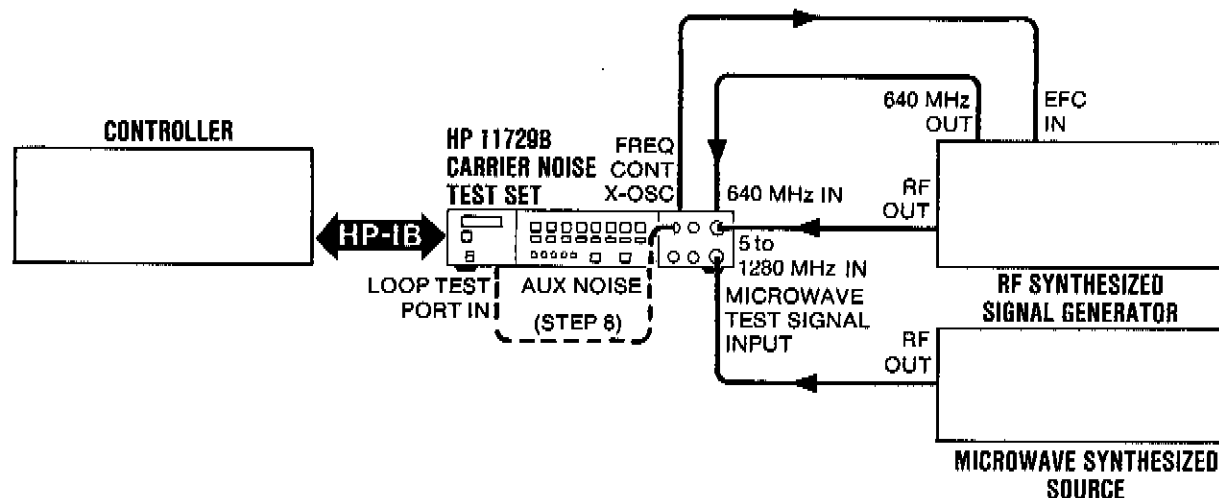

Figure 5-2. Phase Lock Indicator Adjustment Setup
1. Connect the equipment as shown in Figure 5-2.